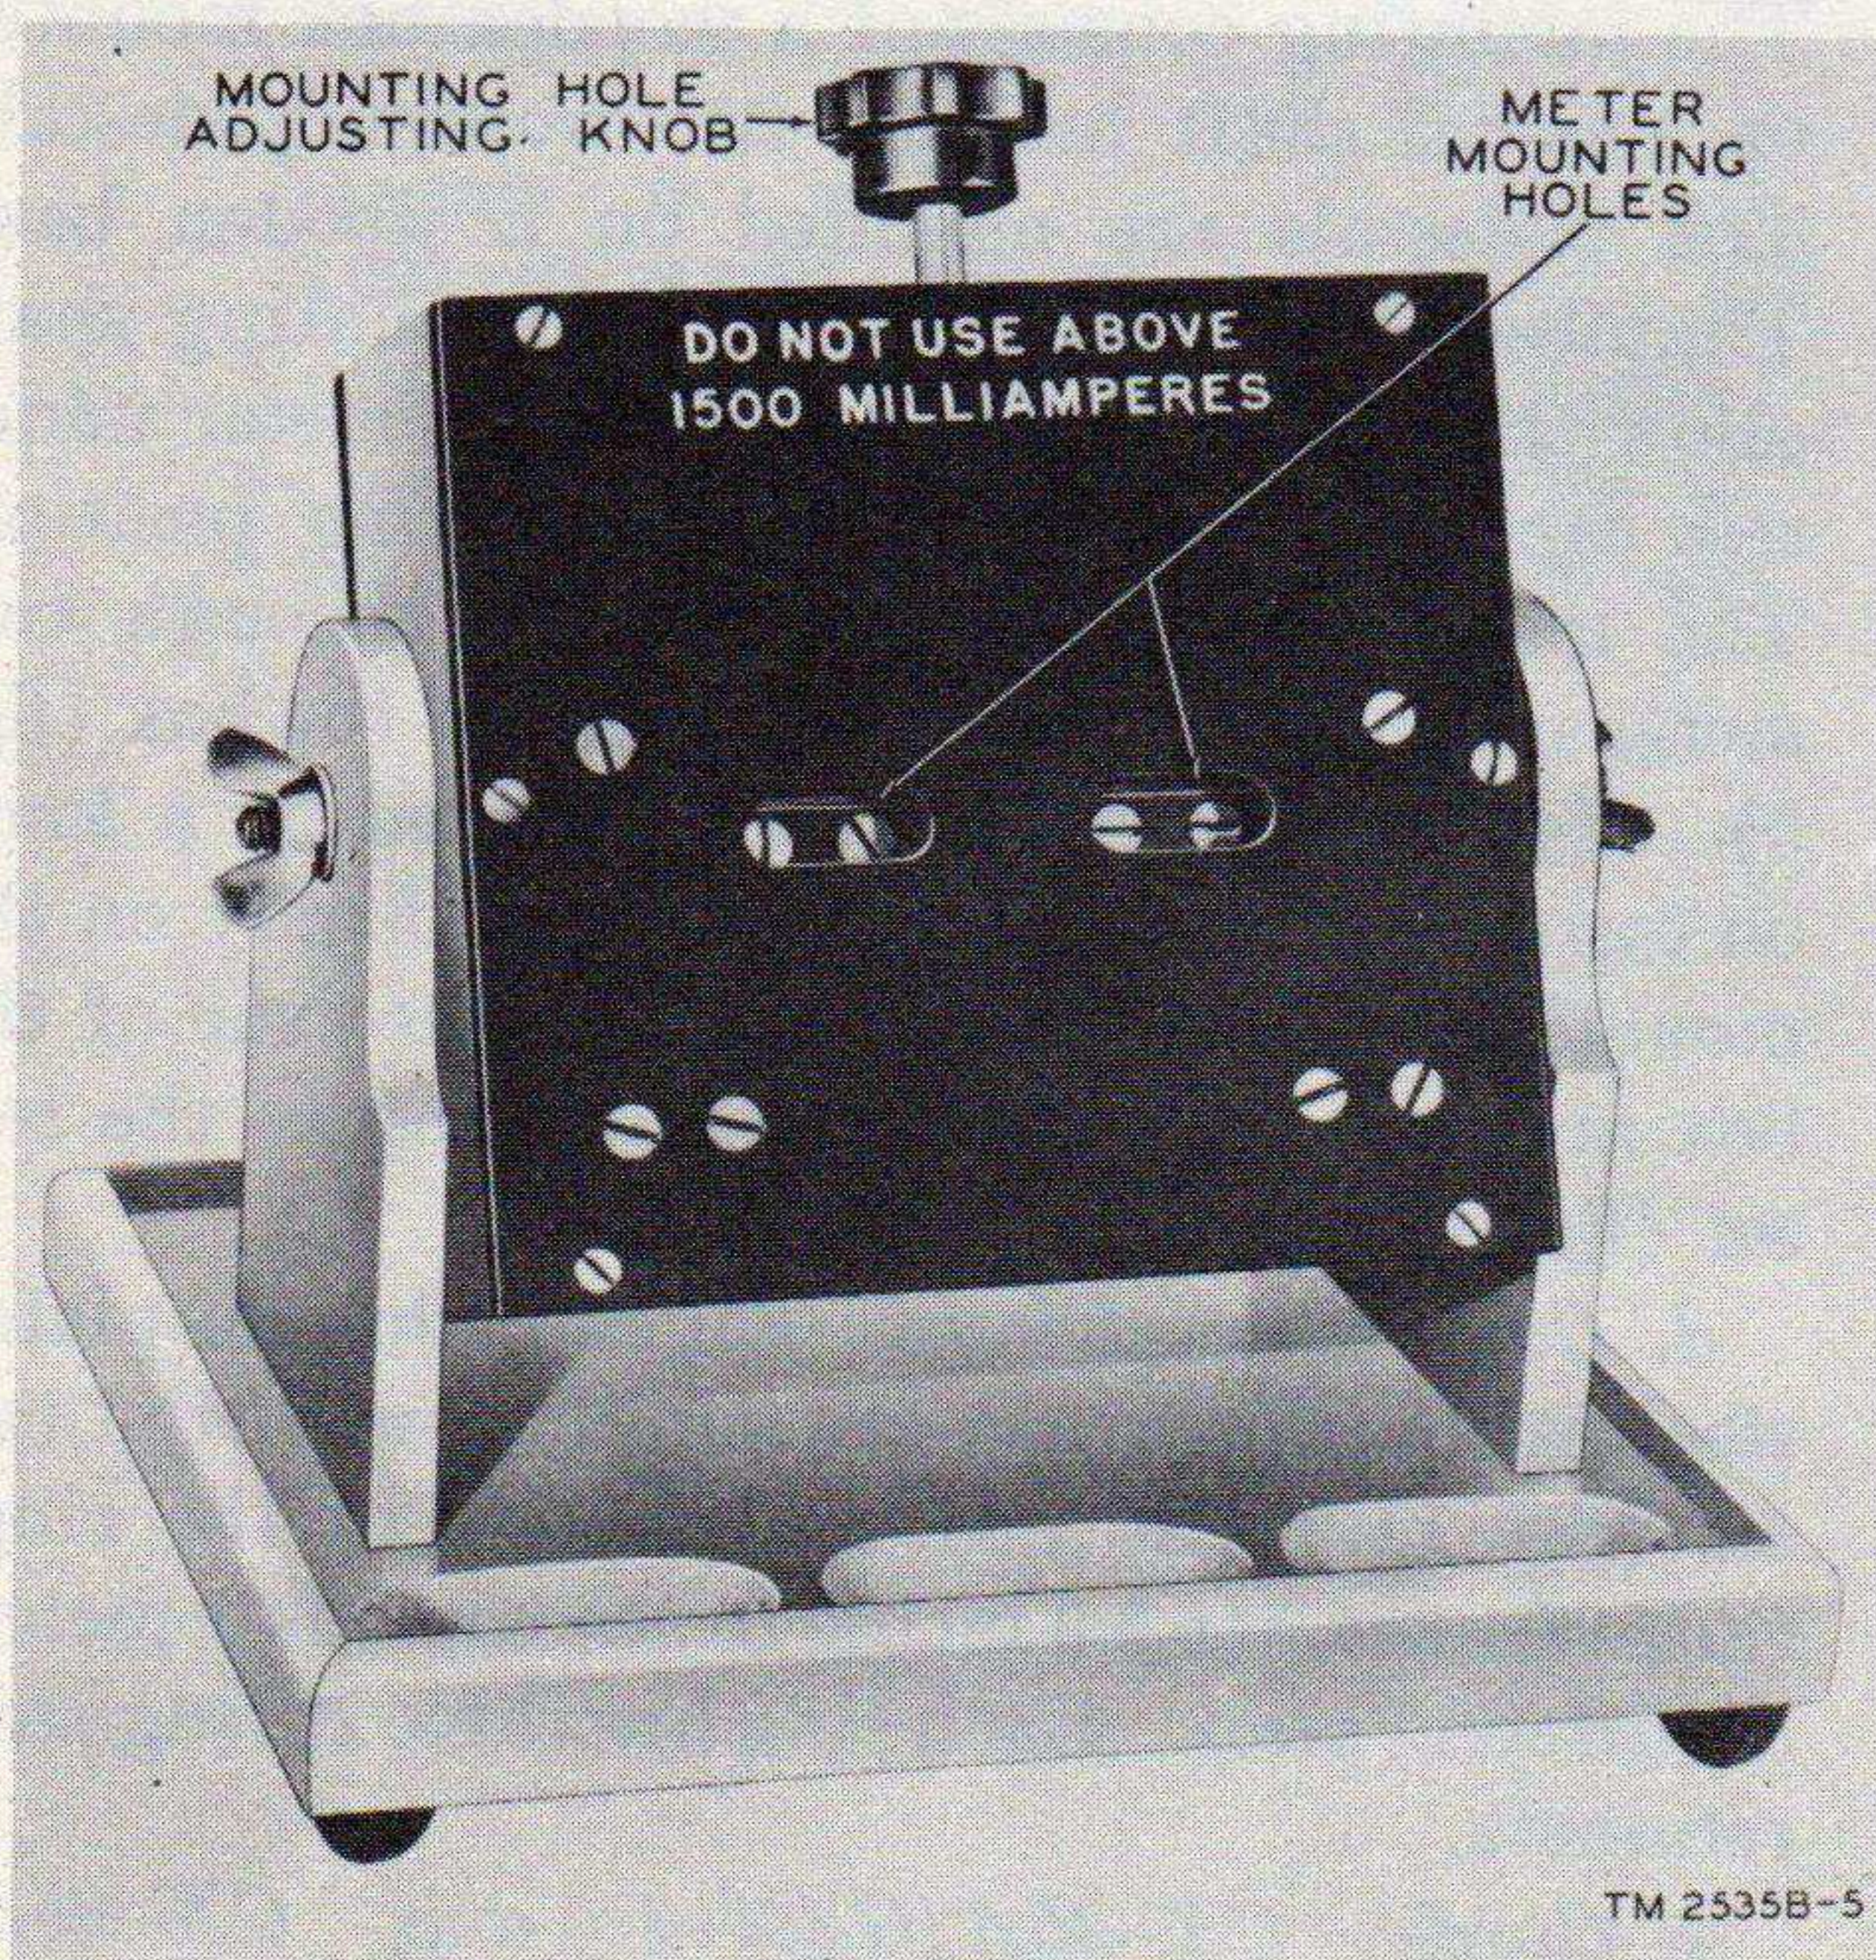
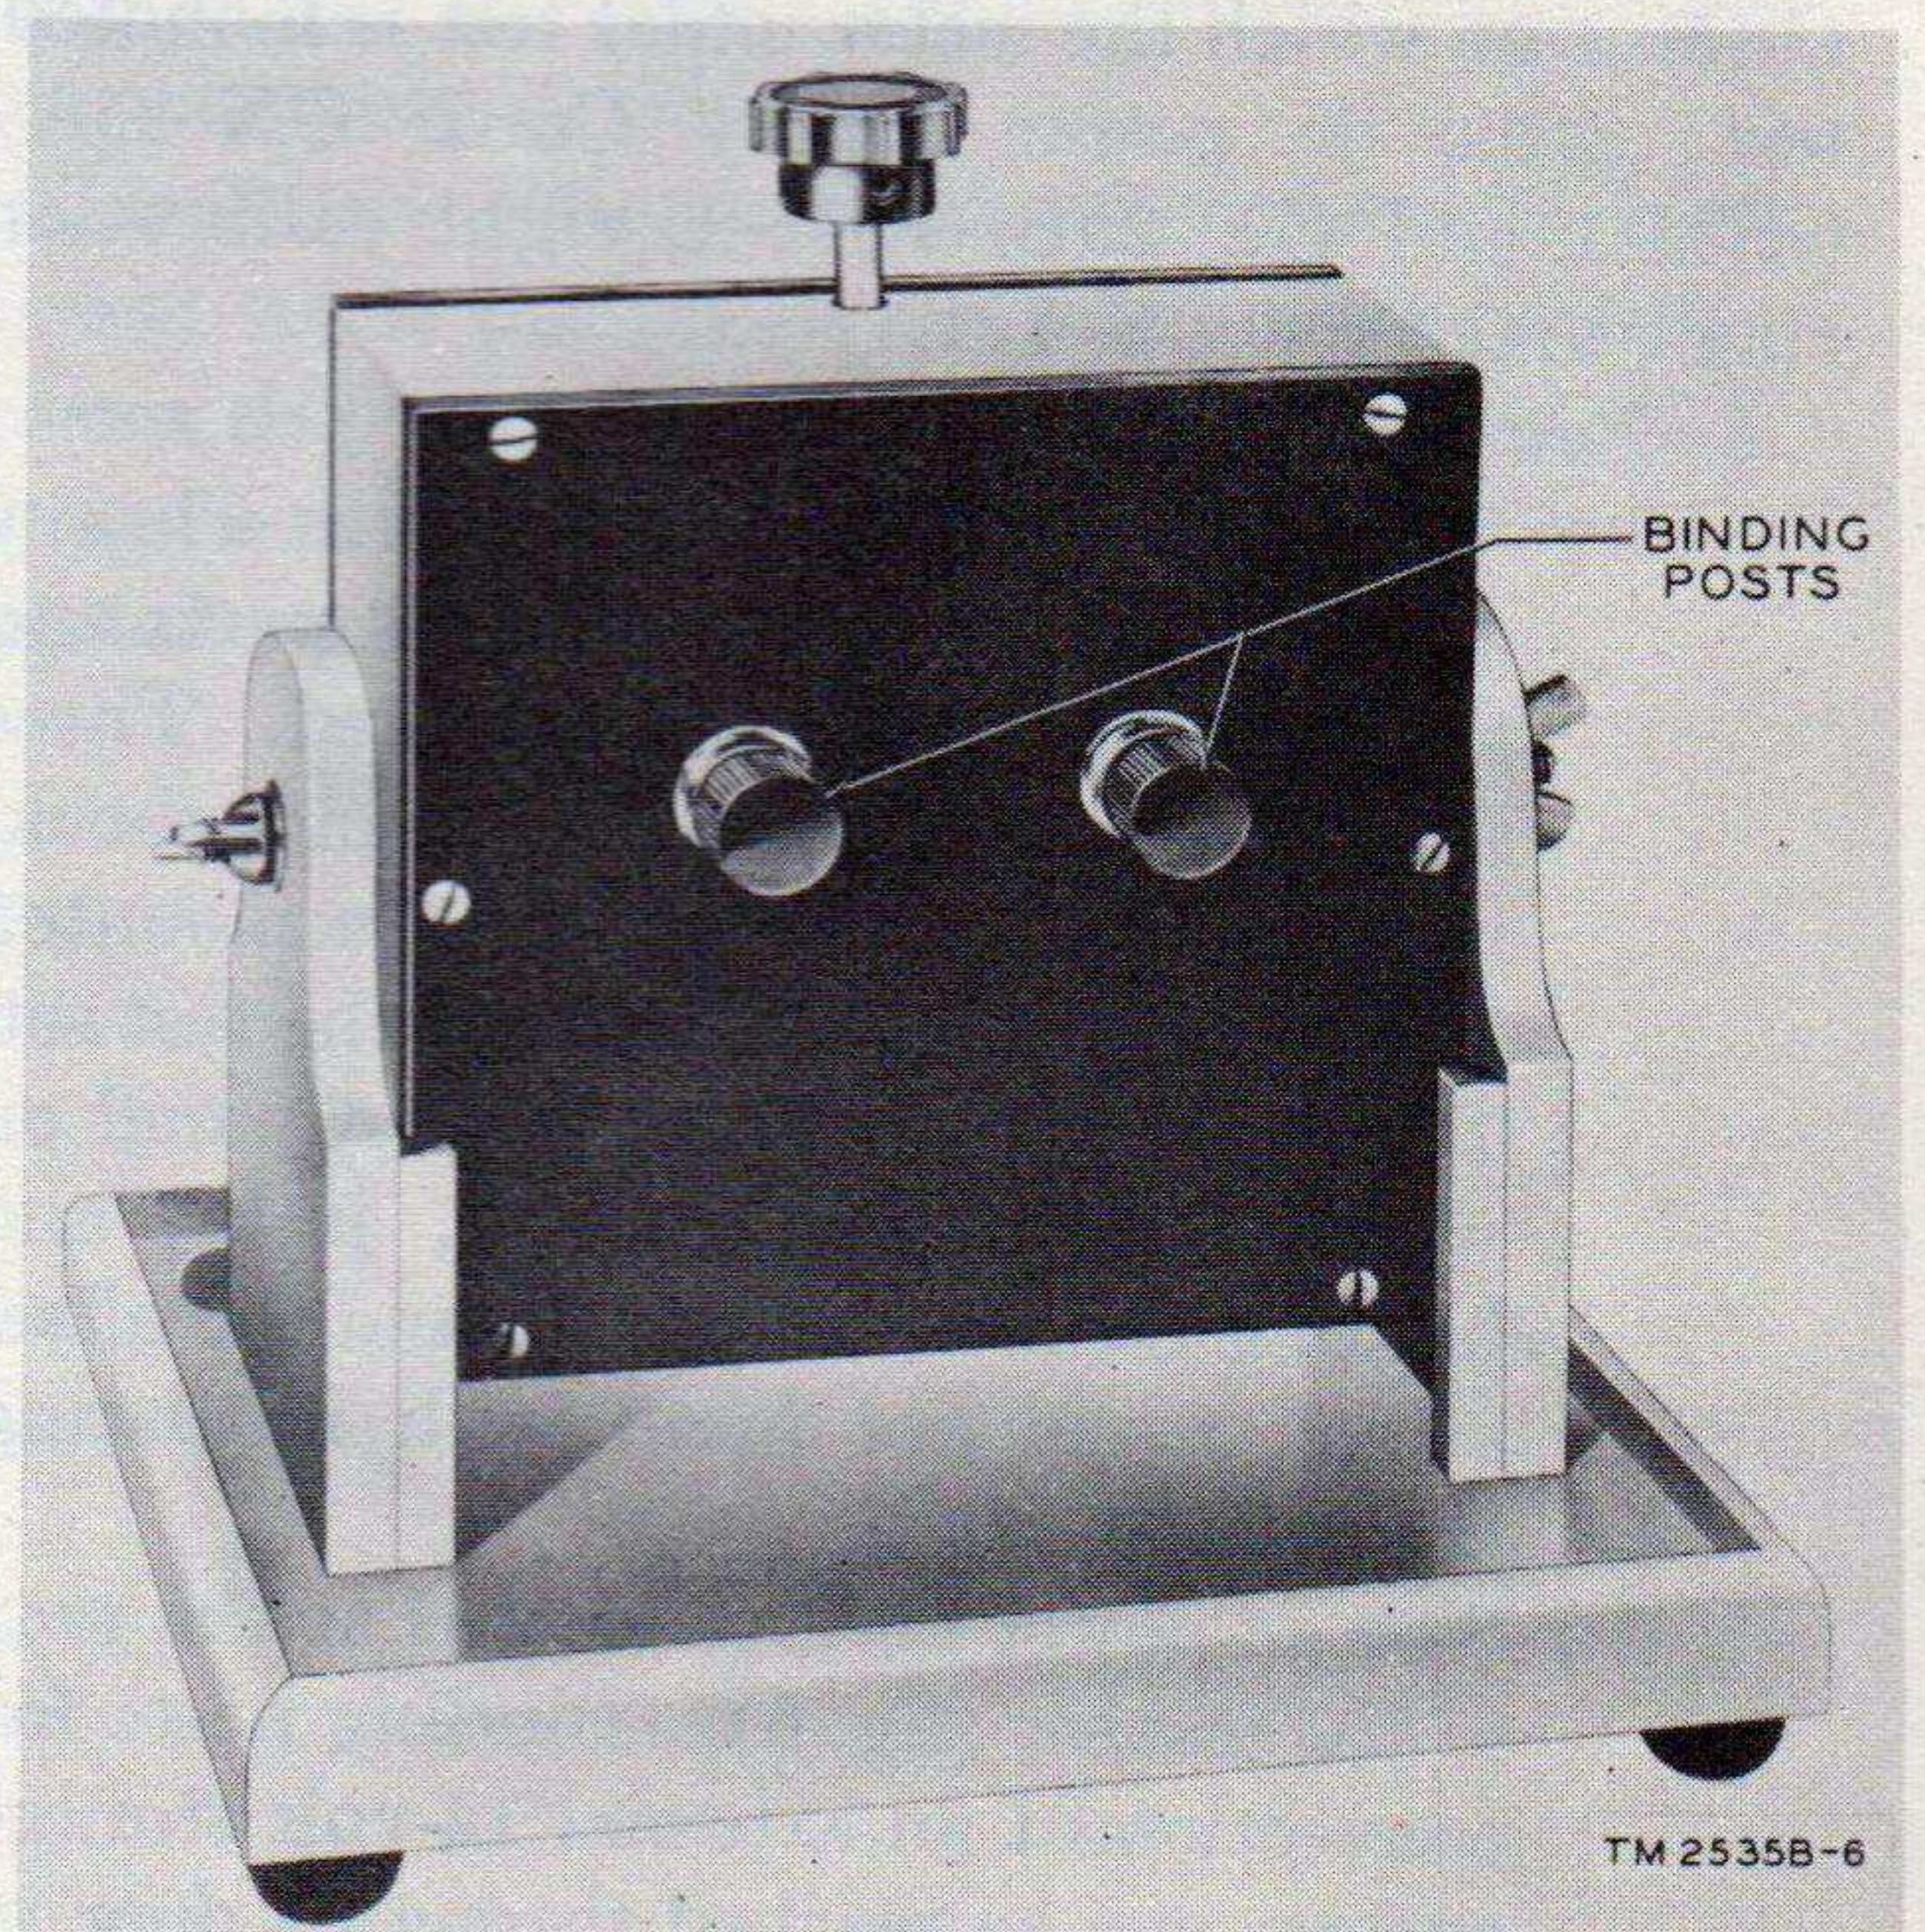

Figure 3. Mounting MT-135A/GSM-1, front view.
Figure 4. Mounting MT-135A/GSM-1, rear view.
c. Mounting MT-135A/GSM-1. Mounting MT-135A/GSM-1 (figs. 3 and 4) is used to mount panel-type meters and to connect these meters electrically to the test set for calibration or repair. The mounting consists of a wooden box mounted on a metal shaft between two wooden pedestals. The pedestals are mounted on a wooden base. Thumbscrews at each end of the mounting shaft allow the box to be tilted so that the meter under test can be set in its normal operating position. The meter under test is mounted through two meter mounting holes on the front of the box (fig. 3). Jaws inside the box are adjusted by a knob on top of the unit to hold the meter firmly on the mounting. Two binding posts on the rear of the box are used to connect the mounting to the test set (fig. 4).